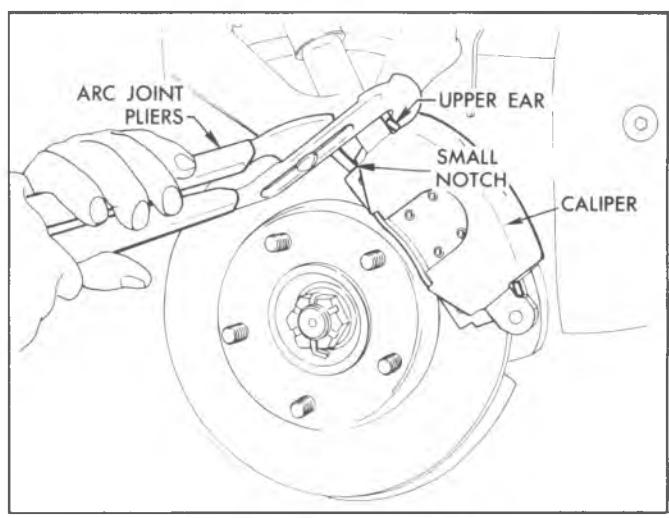

Fig. 59--Fitting Shoe to Caliper
13. Using arc joint pliers, as shown in Figure 59, bend both upper ears of the outboard shoe until no radial clearance exists between the shoe and the caliper housing. Locate pliers on small notch of caliper housing during clinching procedure.